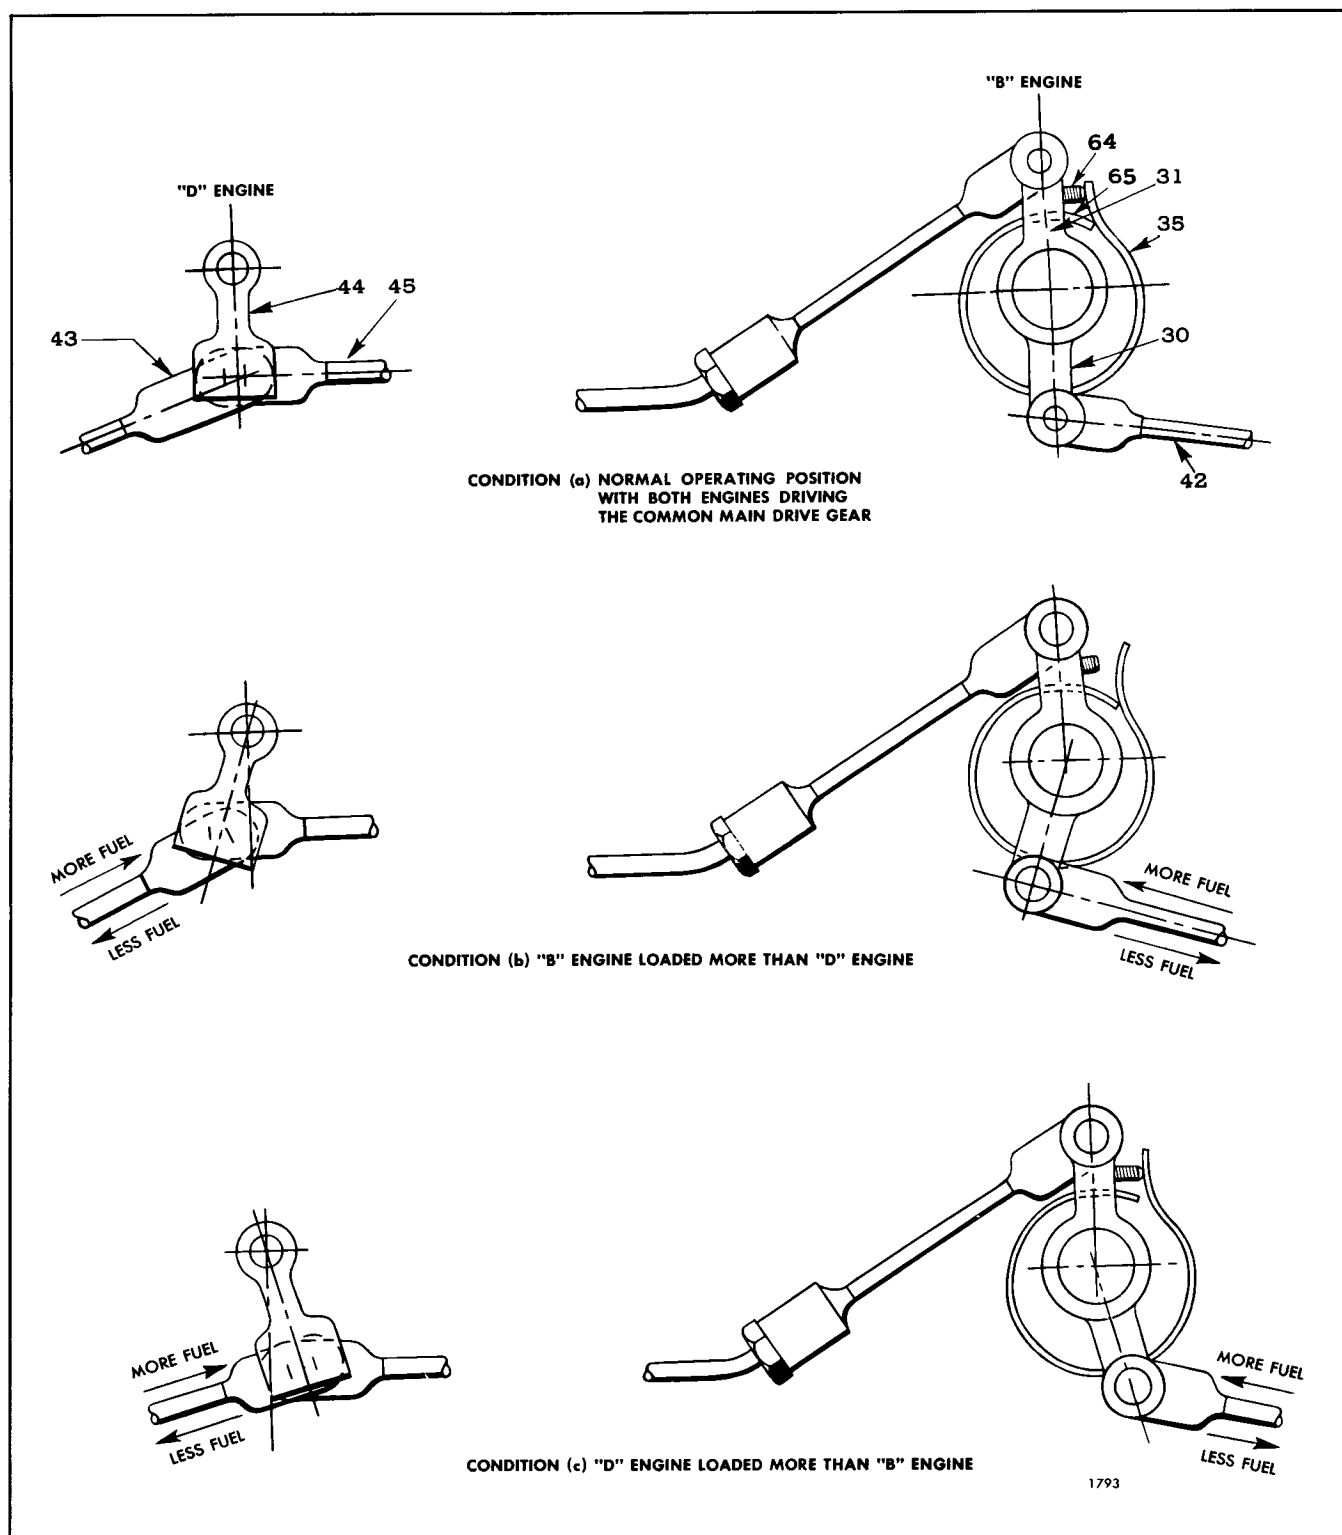

Fig. 16 - Positions of Throttle Linkage Between Twin Engine Units
The function of the link (45) between the two injector control racks, the swivel joint at the injector control tube on the "B" engine, and the equalizer spring (35) is best explained by reference to conditions (a), (b), and (c) in Fig. 16.